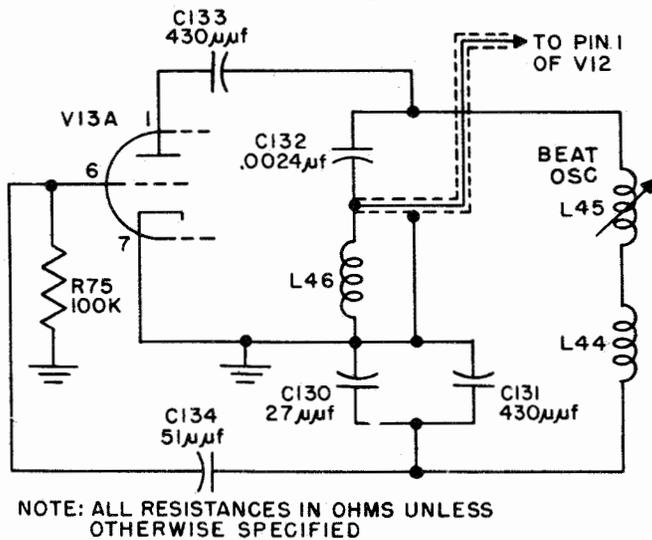

Figure 2-12. Radio Receiver R-450/FRR-28, Simplified Schematic of BFO Circuit
(16) BEAT FREQUENCY OSCILLATOR V13A. (See figure 2-12.)—When AVC switch S4 is in either of the INT BFO positions, tube V13B is inoperative due to the high negative bias applied to the grid through resistors R124 and R127. The oscillator tuned circuit between grid and cathode consists of capacitors C130, C131, and C132 and inductors L44, L45, L46. Feedback from the plate is provided through coupling capacitor C133. Grid coupling capacitor C134 couples the grid to the oscillator circuit. The cathode coupling is effected through ground. The signal output is tapped between capacitor C132 and inductor L46 which serve as a voltage divider to reduce the load effects on the oscillator. Inductor L46 also provides a dc path to ground for the grid of tube V12. Bias for tube V13A is provided by grid leak resistor R75. Plate voltage for both sections of tube V13 is filtered by resistor R77 and capacitor C136, and fed through load resistor R76 and switch S7 when in the CW position.
(17) EXTERNAL BFO AMPLIFIER V13B.—When switch S14 is in either of the EXT BFO positions, the bias for tube V13B is applied at normal operating level through voltage divider R127, R125, R126 and isolating resistor R124, and the bias obtained from the power supply through resistor R127 for tube V13A drives it beyond cut-off. An external BFO signal is applied to the grid of tube V13B through EXT BFO jack J8 and coupling capacitor C171. Resistor R123 is used to match the impedance of the coaxial line feeding the BFO signal into the receiver. The amplified external BFO signal in the plate circuit is directly coupled to the plate of tube V13A.
(18) BFO BUFFER V12.—The BFO signal from either section of tube V13 is fed to the grid of BFO buffer stage V12 through a divider network, consisting of capacitor C132 and inductor L46 and through a shielded lead which prevents the BFO signal from radiating and effecting the IF signal. A variable bias and degenerative feedback voltage is provided by BFO INJECTION potentiometer R74. Screen grid voltage is fed through voltage dropping resistor R100 and filtered by bypass capacitor C135. The plate of the BFO buffer tube V12 is coupled directly to the plate of the driver tube V11, so that both the BFO signal and the IF signal are applied to the second detector tube V14A.
(19) METER M1.—The meter M1 is used as an indicator of relative RF and AF signal strength. When METER switch S11 is in the RF position, the meter is connected across part of voltage divider R65, R69, and R102 which, along with R62, R63, and R64, form the second detector tube V14A plate load. The METER ADJ RF potentiometer R69 is used to set the meter to